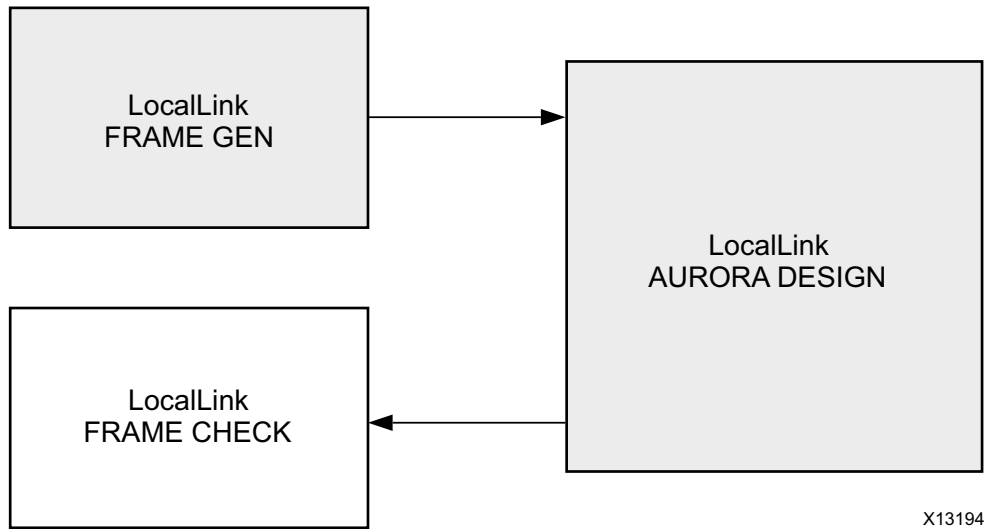
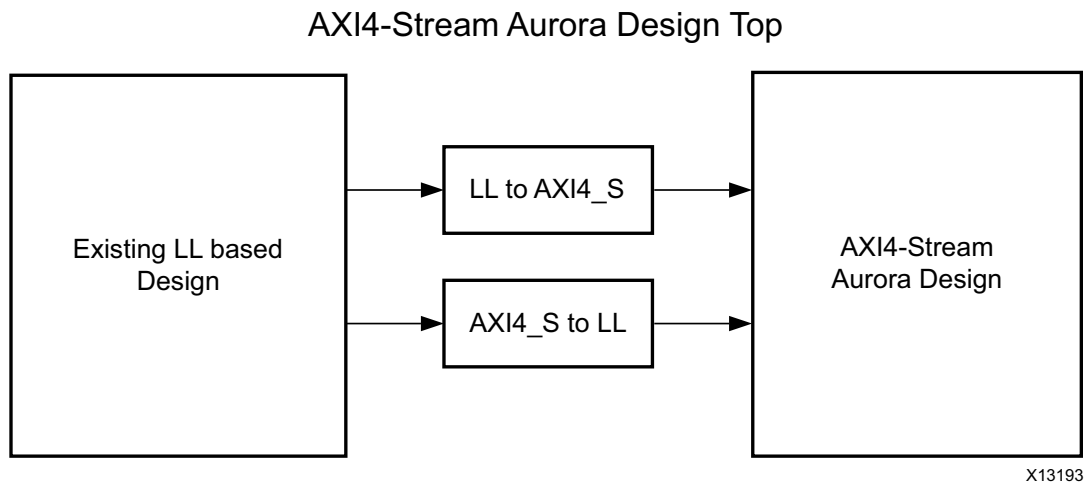

Figure B-1: Legacy Aurora Example Design
Figure B-2: AXI4-Stream Aurora Example Design
Figure B-1 shows an example Aurora design using the legacy LocalLink interface. Figure B-2 shows an example Aurora design using the AXI4-Stream interface.
2. See Figure B-2, page 96 for the emulation of an LL Aurora core from an AXI4-Stream Aurora core.
5. Connect the shim and AXI4-Stream Aurora design as shown in Figure B-2, page 96.